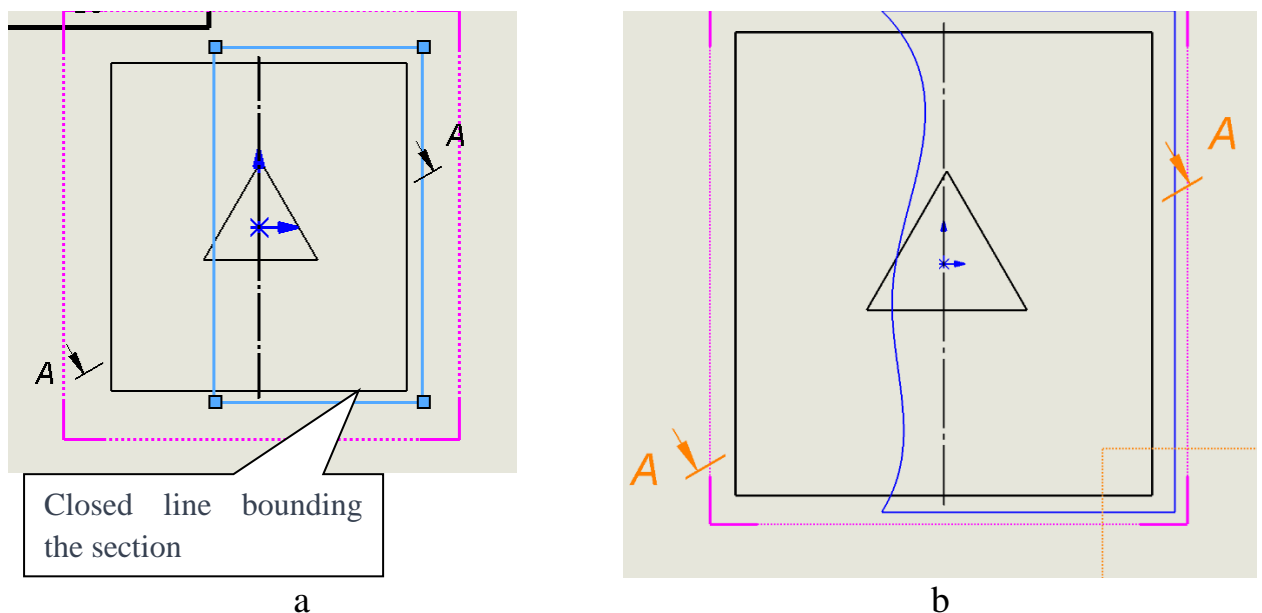

Fig. 4.13.
- press the **Rectangle** button on the **Sketch** toolbar and draw a rectangle to encompass the part of the view where the section is needed instead (fig. 4.13 a). Since there is an internal edge at the boundary between the view and the section, the section needs to be enlarged and divided by a wavy line (fig. 4.13 b);